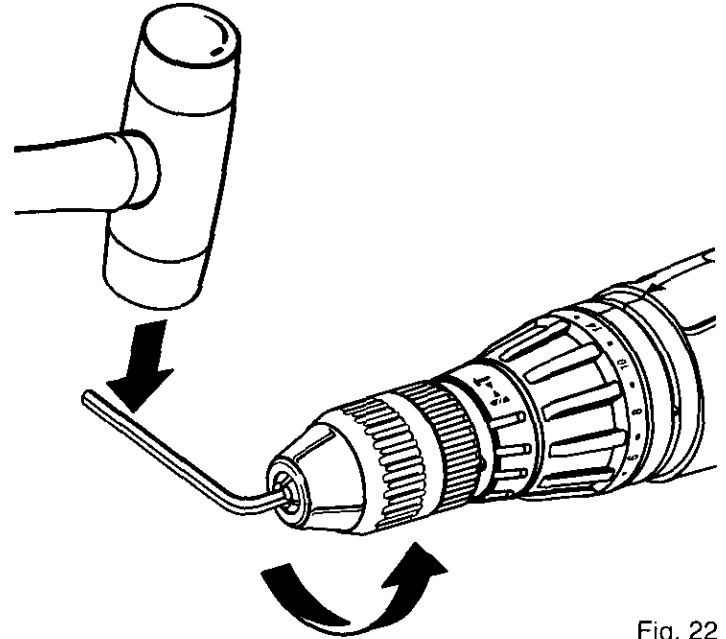

Fig. 22
- Insert hex key wrench in chuck and tighten chuck jaws securely. Tap sharply with a mallet in a counter-clockwise direction. This will loosen chuck on the spindle. It can now be unscrewed by hand. See Figure 22.